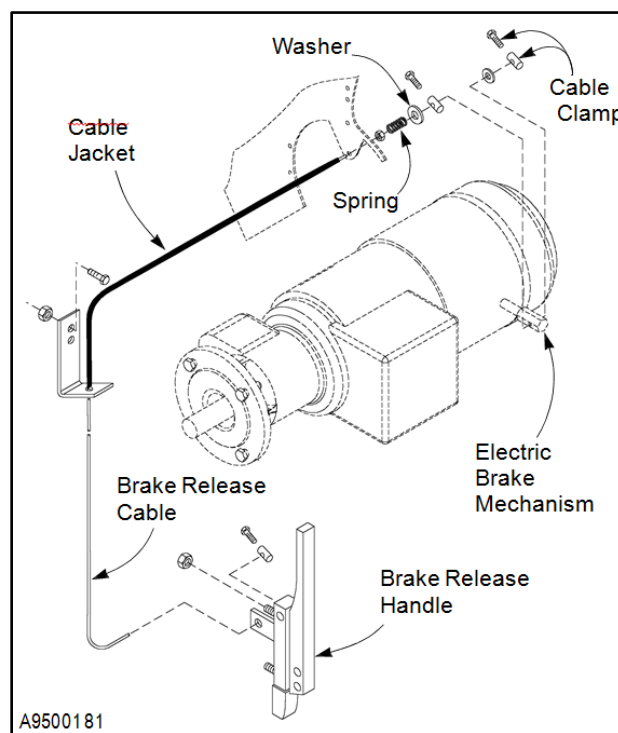

Figure 49
4. Remove and save the cable clamp at the handle end of the cable. Pull the old cable out of the head assembly and side column. Then discard the old cable. (See Figure 49.)
5. Install the new brake release cable, taking the same path as the old cable. Be sure to feed the cable through the cable jacket that runs between the side column and the motor gearbox. (See Figure 49.)